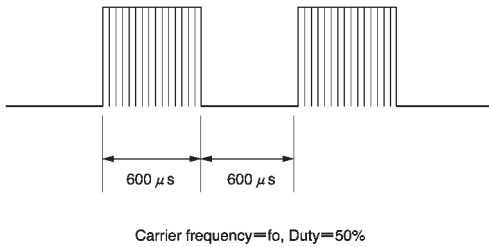
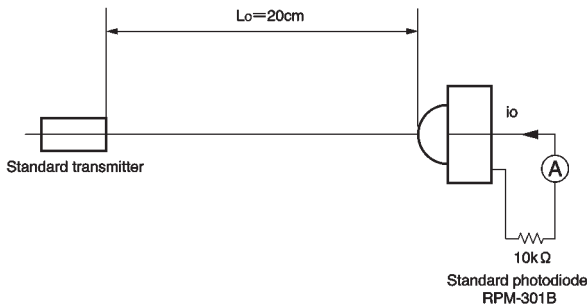
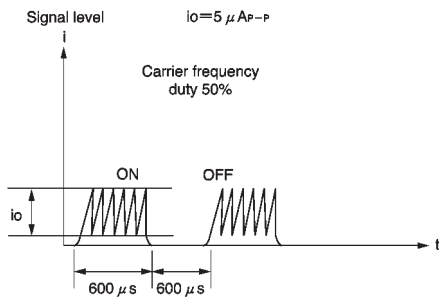

Fig.1 Transmit signal
Fig.2 Measurement of standard transmitter proofreading
Fig.3 Standard photodiode current
\*1 The burst wave form mentioned in fig.1 is to be transmitted from standard transmitter (fig.2).
When standard transmitter output the signal at Fig.1 standard photodiode output become  $i_o = 5 \mu\text{A P-P}$  under the measurement condition Fig.2, Fig.3.
(1) All characteristics of the receiver in this specification are specified by supplying burst wave form with ROHM standard transmitter (Fig.2).